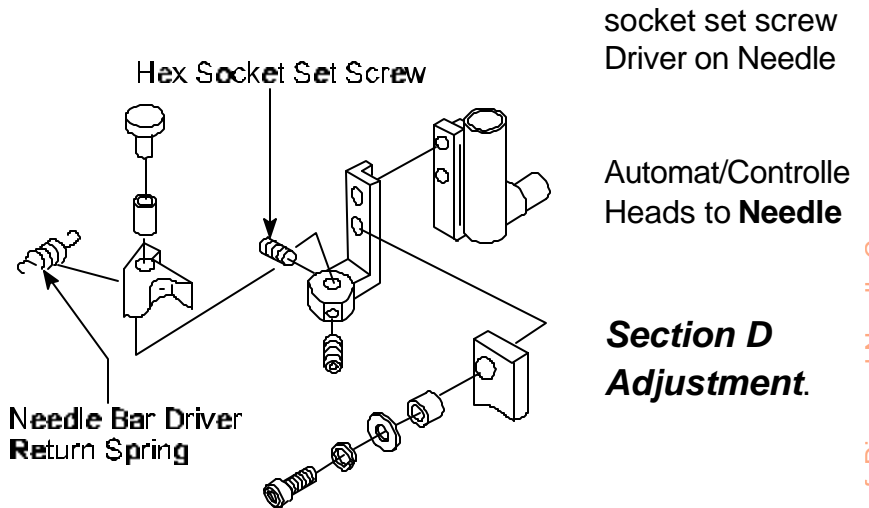

Figure 10
26. **Using** a 2 mm Allen Wrench, **tighten** hex socket screw to secure Needle Bar Driver on Needle Bar Driver Fixing Base. See Figure 10.
- 27. **Attach** Needle Bar Driver Return Spring. See Figure 10.